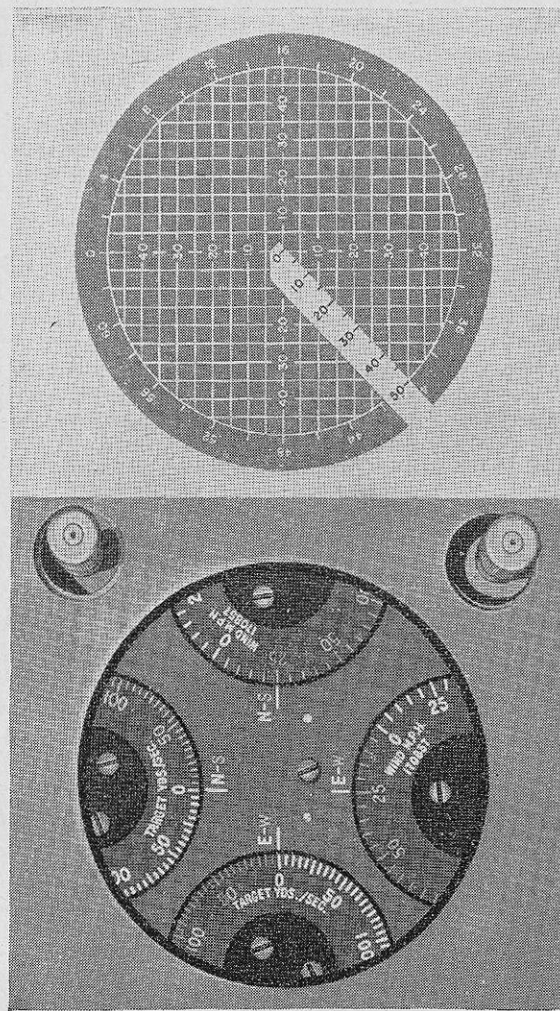

FIGURE 16.—Wind dials are set at 25 west and 25 south because the wind component solver breaks down a 35 mph southwest wind into these two factors.
(1) The north-south and east-west components are found by setting the arm of the wind component solver to the ballistic wind azimuth. Azimuth in mils is graduated around the perimeter of the solver. (See fig. 16.)
(2) Trace down the arm to the ballistic wind velocity. From this point follow the nearest horizontal line on the face of the solver to find the north or south wind component on the vertical scale. Follow the nearest vertical line to find the east or west wind component on the horizontal scale.
(3) Set in the respective wind components on the wind dials on the left side of the director. For north or east components use white figures. For south or west components use red figures.